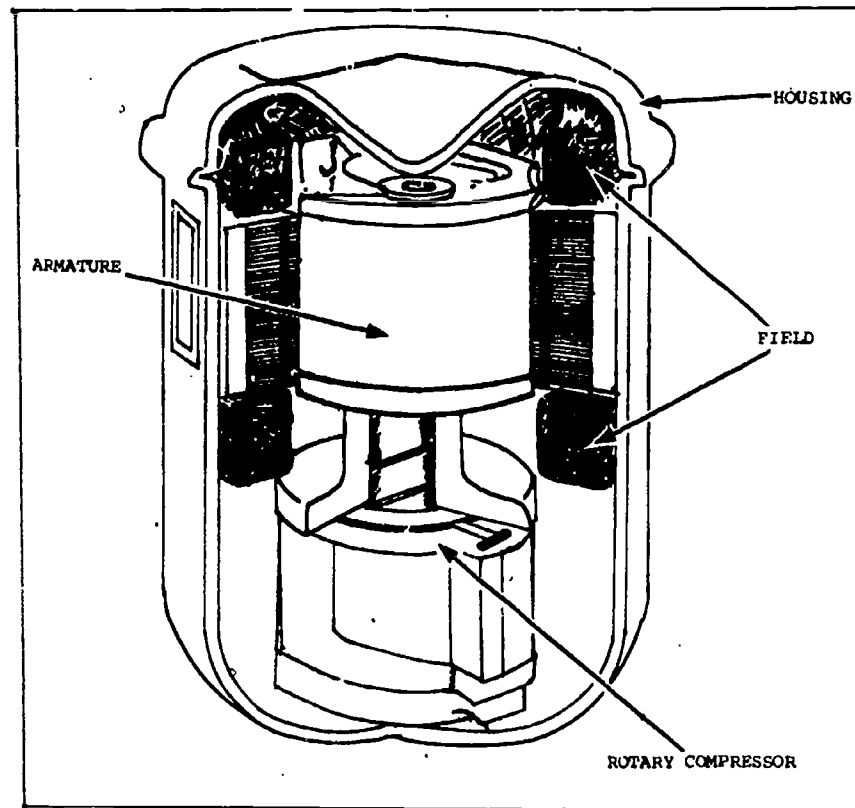

Fig 2-6. Cutaway of a hermetically sealed rotary compressor.
e. **Hermetic compressor (fig 2-6).** The most commonly used compressor in self-contained military air conditioners today is the hermetic compressor which has the motor rotor and the compressor crankshaft built as one complete unit. Then the entire motor/compressor is sealed into a gas-tight housing. The hermetic compressor is relatively maintenance free as it eliminates compressor shaft seals, flywheels, motor pulleys, and belts which cause many maintenance problems. However, because it is a sealed unit, the valve plates become inaccessible and cooling of the unit becomes a major problem. Manufacturers have attempted to solve the cooling problem by several methods. One is to press the starter into a dome located on one end of the sealed housing. This provides easy heat transfer from the windings to the casing and then to the surrounding atmosphere. Another method is to pass the returning gas around the windings before it is compressed. This does, however, present a problem because the gas may become warm enough to cut down on the volumetric efficiency of the compressor. The hermetic compressor is by far the easiest to maintain, but if internal problems do arise, the entire unit must be replaced since none of its parts are accessible for repair or replacement. Hermetic compressors vary in size from 1/16 hp up to 20 hp. The internal design will depend on the compressor's size and the manufacturer. Some are spring mounted internally, while others are spring mounted externally. Small hermetics have a single cylinder, while 1/2 hp and up will have two or more cylinders. Small hermetics use drive motors that are single phase, 2- or 4-pole motors, but the larger hermetics generally use 3-phase motors.